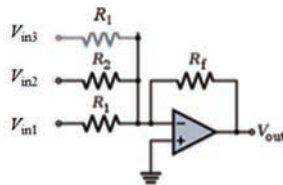

Figure 9.44 Ch 9: No. 18, self-test
18. Determine the output voltage for the circuit shown in Figure 9.44, if R_1 is 4 k Ω , R_2 is 2 k Ω , R_3 is 3 k Ω , R_f is 25 k Ω , V_{in1} is 4 mV, V_{in2} is 3 mV, and V_{in3} is 5 mV.